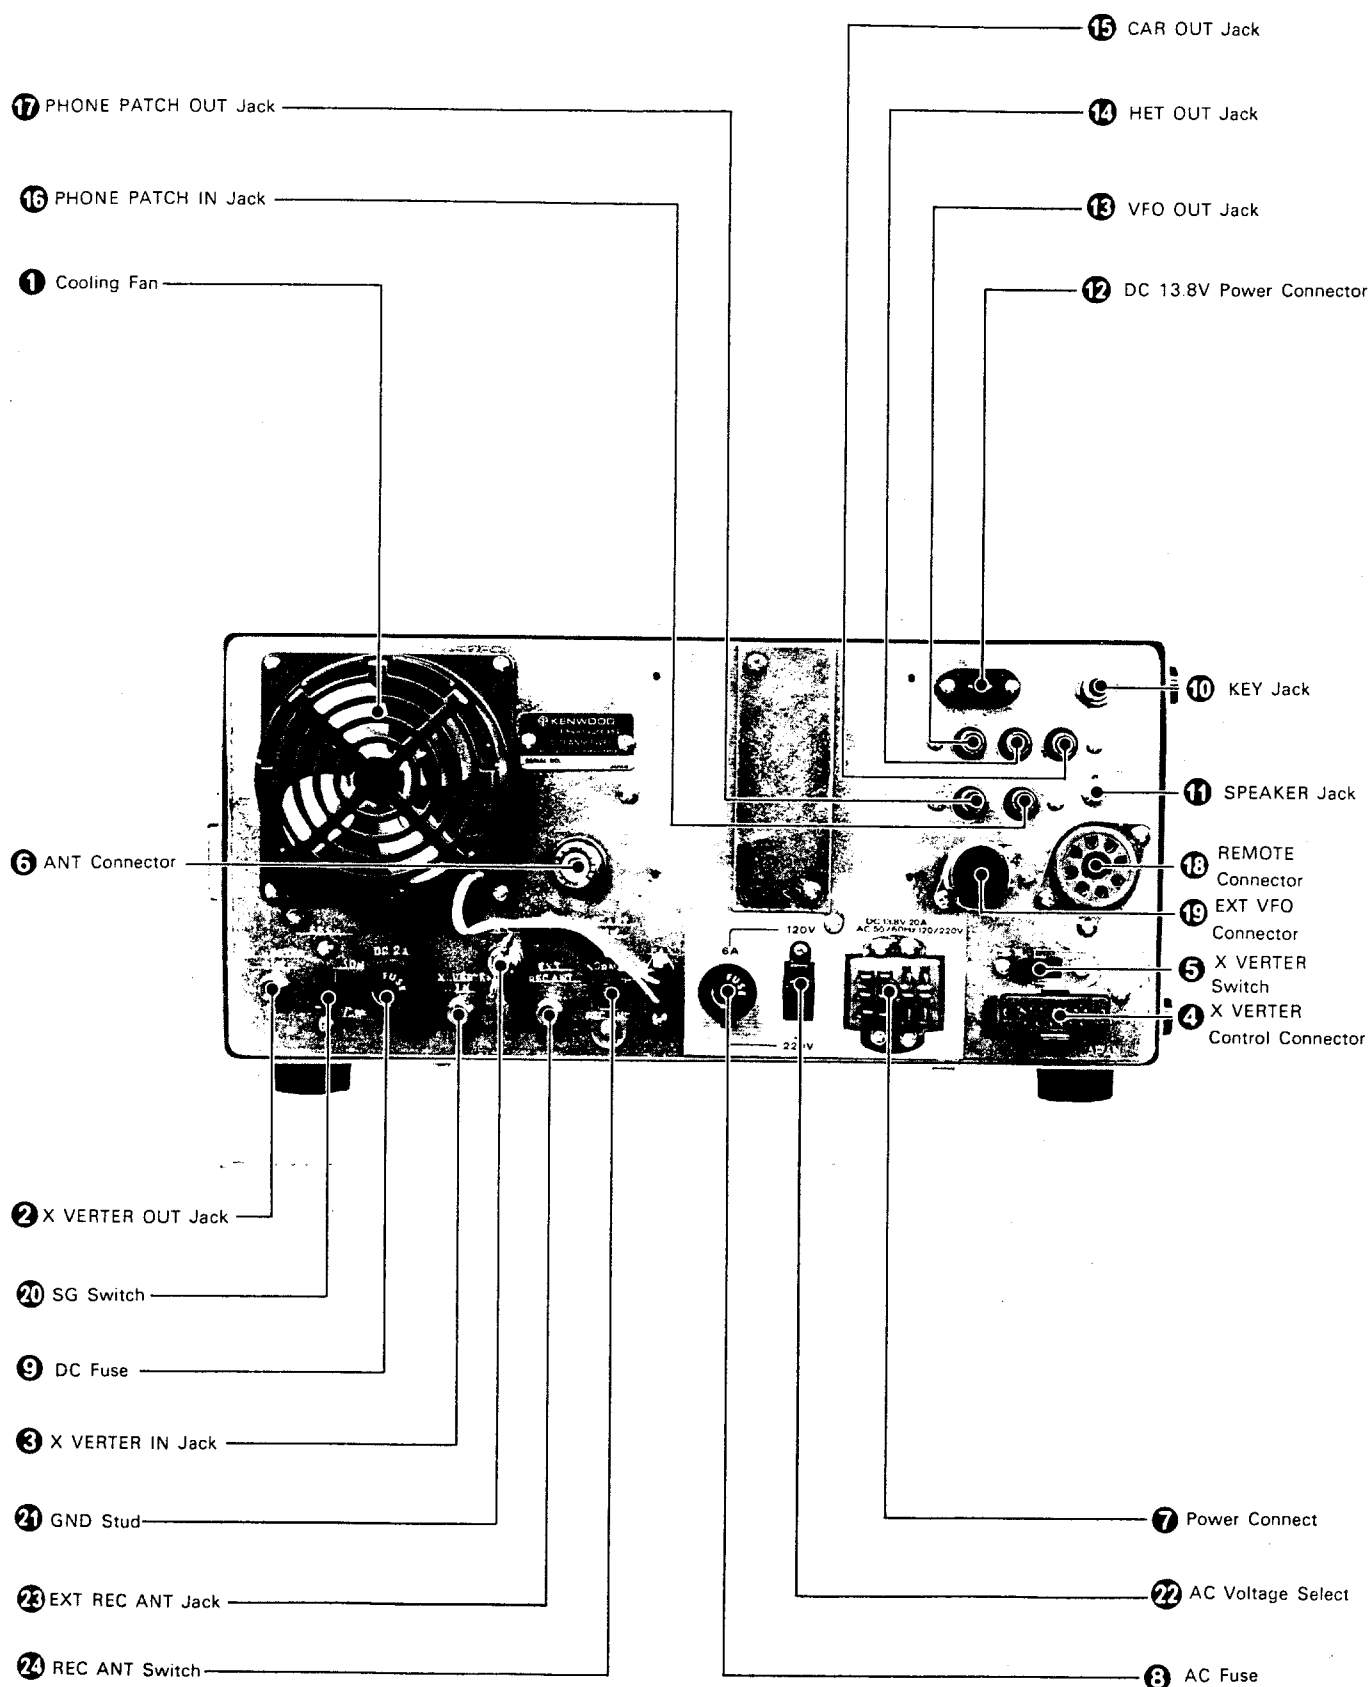

Fig. 7 Rear Panel Controls
3.3 REAR PANEL CONTROLS (See Figure 7)
■ COOLING FAN (① on Figure 7)
■ TRANSVERTER OUT JACK (② on Figure 7)
■ TRANSVERTER IN JACK (③ on Figure 7)
■ TRANSVERTER CONNECTOR (④ on Figure 7)
■ X VERTER SWITCH (⑤ on Figure 7)
■ ANTENNA CONNECTOR (⑥ on Figure 7)
■ POWER SUPPLY CONNECTOR (⑦ on Figure 7)
■ AC FUSE (③ on Figure 7)
■ DC FUSE (⑨ on Figure 7)
■ KEY JACK (⑩ on Figure 7)
■ SPEAKER JACK (⑪ on Figure 7)
■ 13.8V DC CONNECTOR (⑫ on Figure 7)
■ VFO OUT JACK (⑬ on Figure 7)
HET OUT JACK (⑭ on Figure 7)
CAR OUT JACK (⑮ on Figure 7)
■ PHONE PATCH IN JACK (⑯ on Figure 7)
■ PHONE PATCH OUT JACK (⑰ on Figure 7)
■ REMOTE CONNECTOR (⑱ on Figure 7)
■ EXTERNAL VFO CONNECTOR (⑩ on Figure 7)
■ SG SWITCH (②① on Figure 7)
■ GND (Ground) LUG (④ on Figure 7)
■ AC VOLTAGE SELECT SWITCH (②② on Figure 7)
■ EXTERNAL RECEIVER ANTENNA JACK (②③ on Figure 7)
■ RECEIVER ANTENNA SWITCH (②④ on Figure 7)